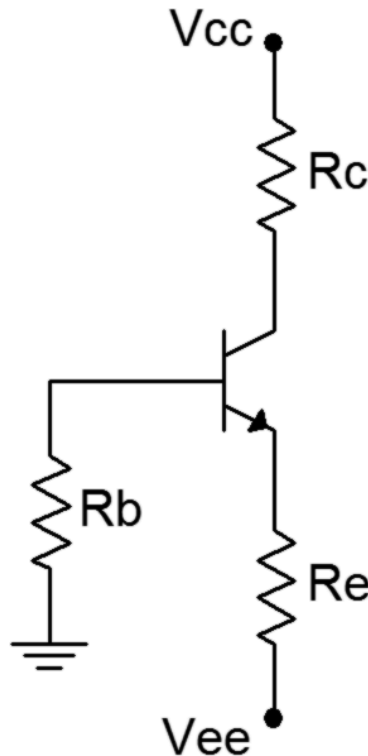

Figure 1
1. Consider the circuit of Figure 1 using $V_{CC} = 15$ volts, $V_{EE} = -12$ volts, $R_B = 33\text{ k}\Omega$, $R_E = 22\text{ k}\Omega$ and $R_C = 15\text{ k}\Omega$. Using the approximation of a negligible base voltage, determine the ideal end points of the DC load line and the Q point, and record these in Table 1.
3. Build the circuit of Figure 1 using $V_{CC} = 15$ volts, $V_{EE} = -12$ volts, $R_B = 33\text{ k}\Omega$, $R_E = 22\text{ k}\Omega$ and $R_C = 15\text{ k}\Omega$. Measure the base, emitter and collector voltages and record them in the first row of Table 2 (Experimental). Compute the deviations between theoretical and experimental and record these in the first row of Table 2 (% Deviation).
- Build the circuit of Figure 1 in a simulator. Run a DC simulation and record the resulting transistor voltages in Table 6.